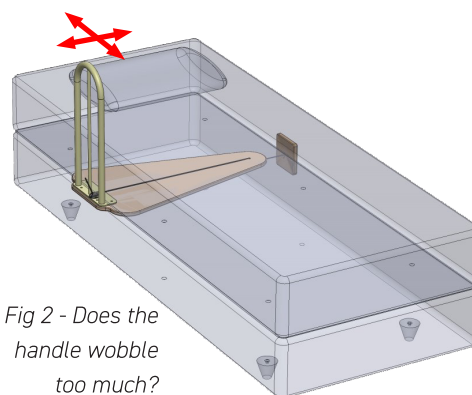
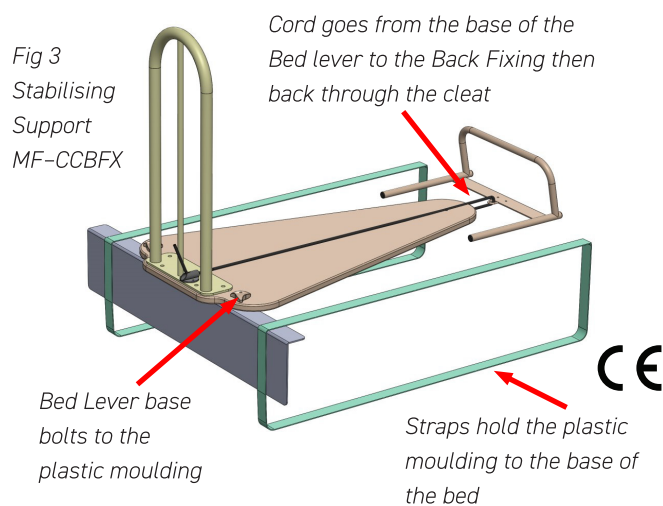

Fig 2 - Does the handle wobble too much?
Fig 3
Fig 2 - Fit the Handle tightly against the side of the mattress by firmly connecting the Cord from the Block, across and under the mattress to the Plastic Cleat on the Bed Lever base. For increased Handle stability add the Stabilizing Support (opposite page).
**Does the handle wobble too much?** - The standard Bed Lever with the Cord and Cleat suits people who are using the handle to assist with balance. *See Fig 2.* But if you think the Bed Lever handle wobbles too much or if you are at all concerned that your client might push or pull on the handle with a degree of force, then adding the "Bed Lever Stabilising support, MF - CCBFX" will anchor the Bed Lever in place, greatly improving the handle stability and more safely secure the handle tightly to the bedside. *See Fig 3.* This is a strong plastic moulding that straps to the base of the bed and bolts to the base of the Bed Lever. The Cord and Cleat are replaced with a tubular steel mattress Back Fixing which holds tightly to the mattress. This method offers the highest degree of Bed Lever safety while still allows the Bed Lever to be loosened so the bed can be made.